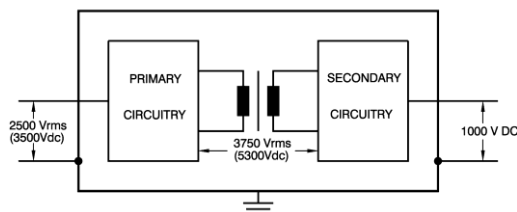

Figure 7.8: Insulation test voltages.
- The insulation of the separating components between input and output, such as transformers and opto-couplers, is tested before assembly during 1 minute at 3750 V_{RMS} (5300V_{DC}), see Figure 7.8.